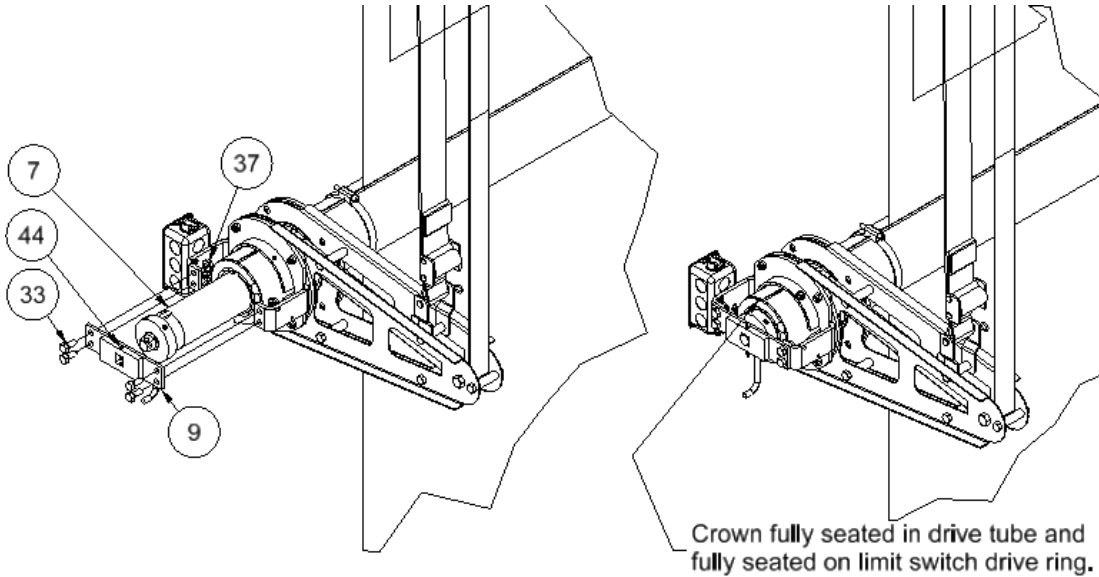

Figure 6
Refer to Figure 6 for the following steps
4. **Double Motor Curtains (fig 6):** Connect the motor drive plate (item 9) to the anti-torque arm using the four 5/16 x 3/4" bolts (Item 33) and 5/16" Wiz LockNuts (Item 37).